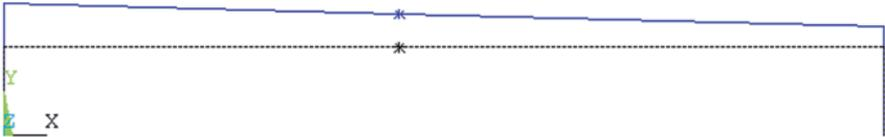

Fig. 8.85 First mode shape for the automobile suspension system model
- The mode shape is shown in Fig. 8.85 as it appears in the *Graphics Window*.